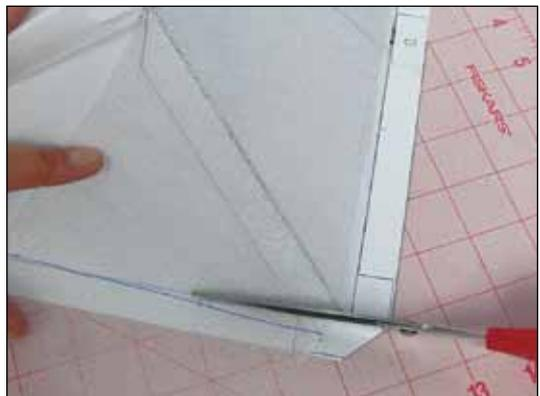

Figure 10
4. Fold down one side of the foam from Section A and cut off where it extends over the box flap (Figure 10). Repeat on the opposite side. Glue these two sides down to the box.